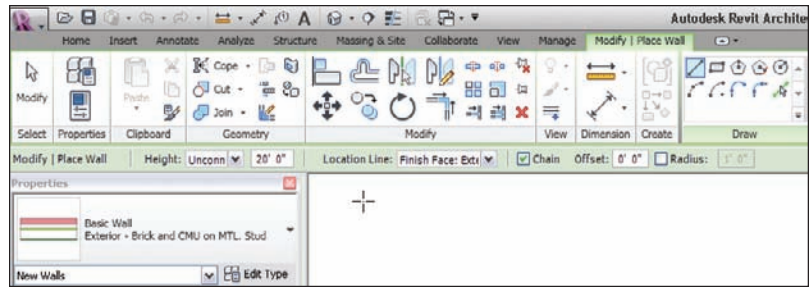

FIGURE 1.7 The Options bar replaces the command prompt from AutoCAD. Microstation users will be more familiar with this method.
2. After you click the Wall button, notice that Revit adds an additional tab to the Ribbon, with options specific to the command you are running, as shown in Figure 1.7. This tab allows you to make different choices based on the placement of a wall. You may also notice that Revit places an additional Options bar below the Ribbon for more choices.